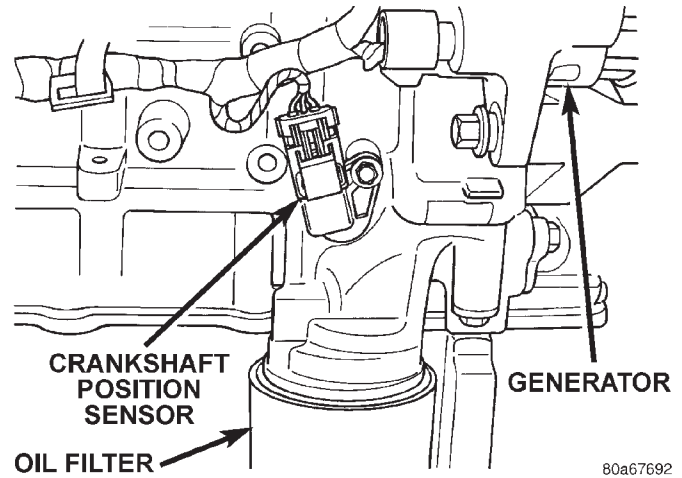
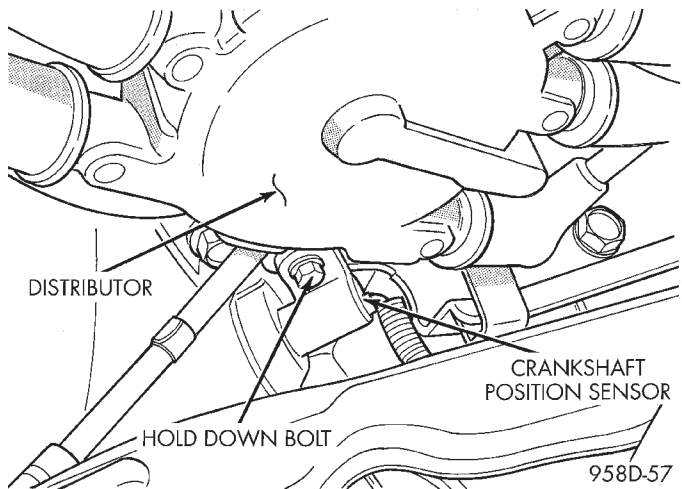

Fig. 56 Crankshaft Position Sensor—2.0/2.4L Engines-Typical
Fig. 57 Crankshaft Position Sensor—2.5L Engine
(19) Inspect electrical connections at the generator. Check the generator belt for glazing or damage.
(20) Inspect electrical connector at the crankshaft position sensor (Fig. 56) or (Fig. 57).